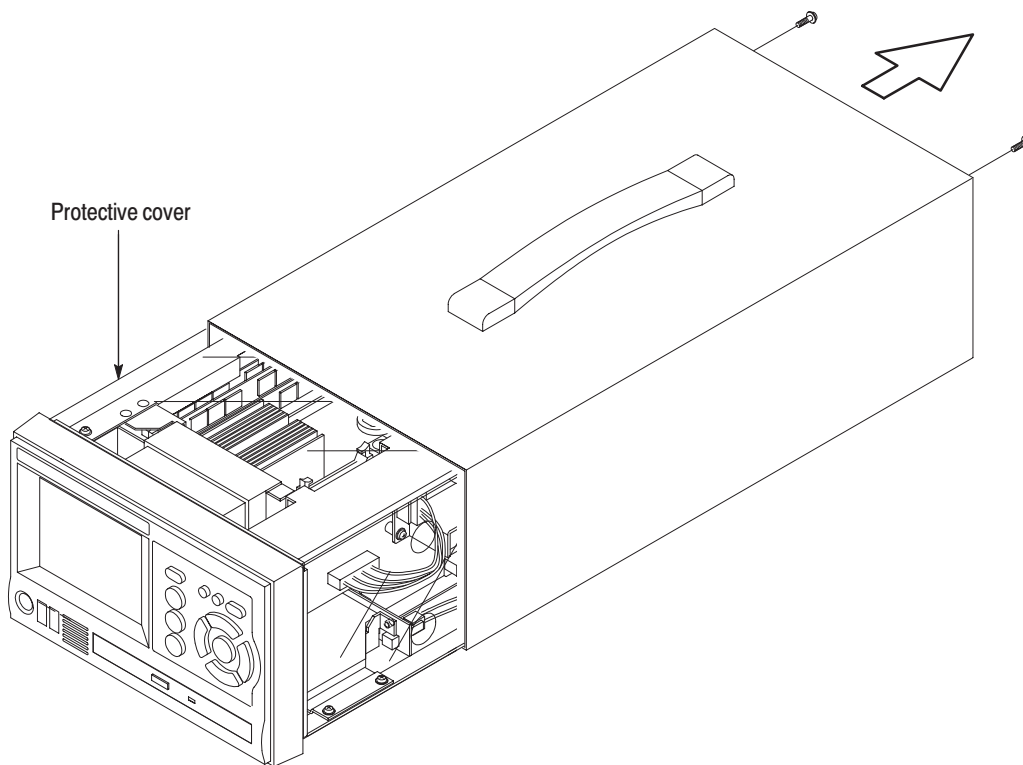

Figure 6-7: Cabinet and protective cover removal
4. *Remove cabinet and protective cover:* See Figure 6-7.